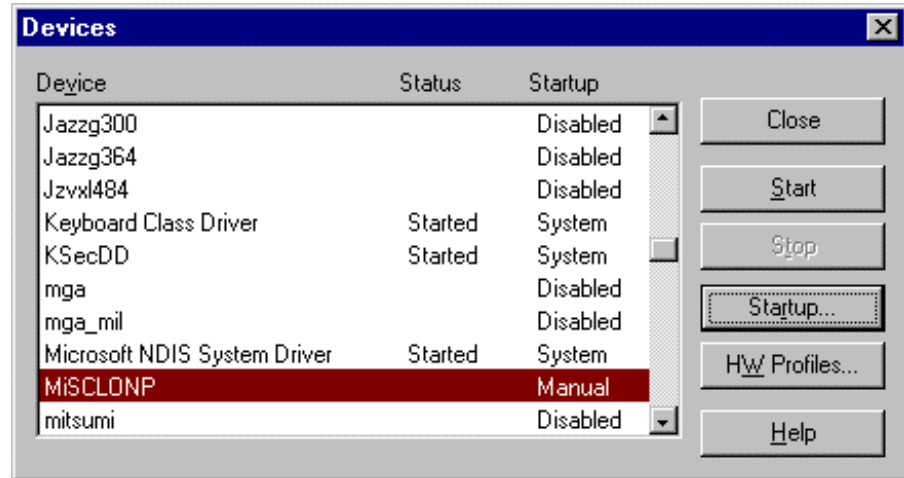

Figure 15. MiSCLONP device
- Once the Devices applet is running, select the device titled MiSCLONP from the device list, see Figure 15.
At next system start-up the MiSCLONP device is automatically started and you can now either reboot the system or directly attempt to start the MiSCLONP device by clicking the button labelled Start on the Devices dialog, shown in Figure 15, whereafter the device driver should be fully working.